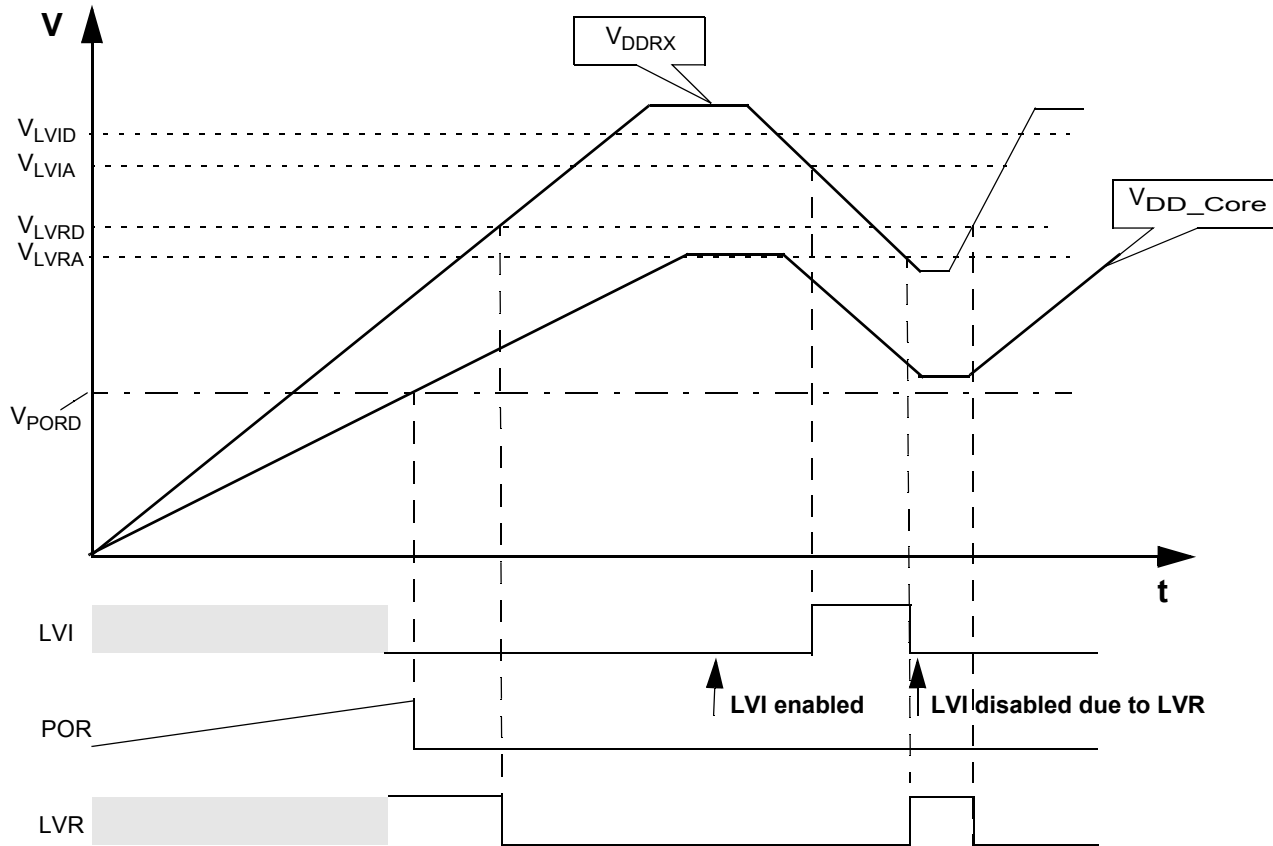

Figure 4. 9S12I32 - Chip Power-up and Voltage Drops (not scaled)
34. Monitors  $V_{DDRX}$ , active only in Full Performance mode. MCU is monitored by the POR in RPM (see Figure 4).